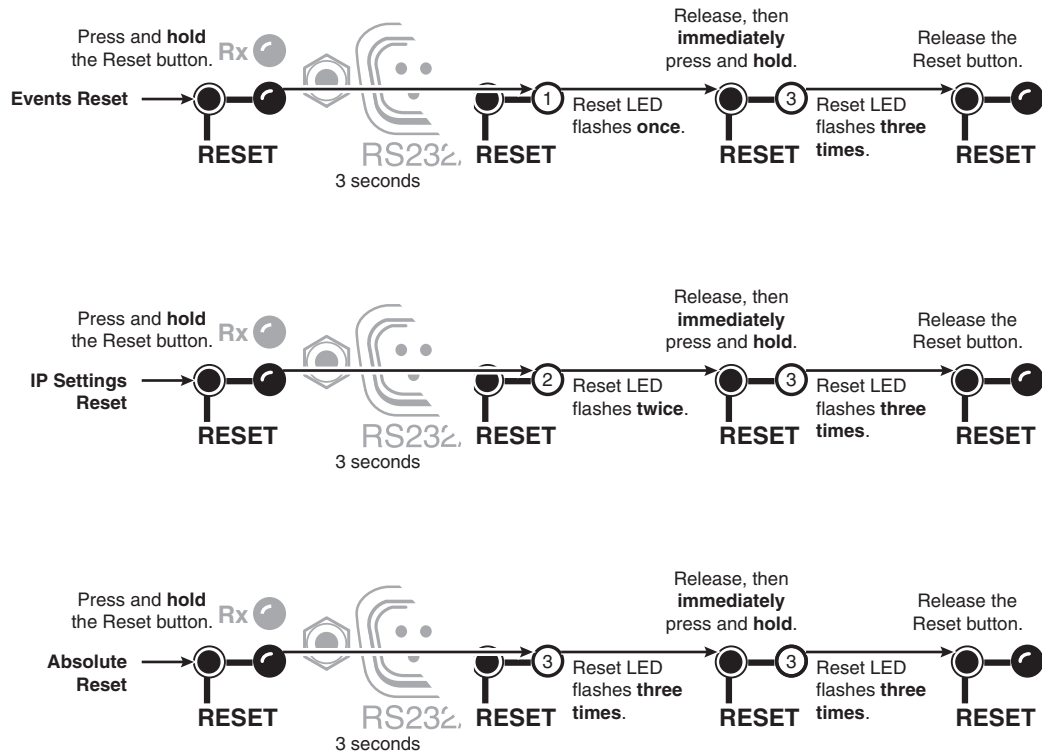

Figure 3-70 — Whole switcher and absolute resets
1. Press and **hold** the Reset button until the Reset LED blinks once (events reset), twice (system reset), or three times (absolute reset) (figure 3-70).